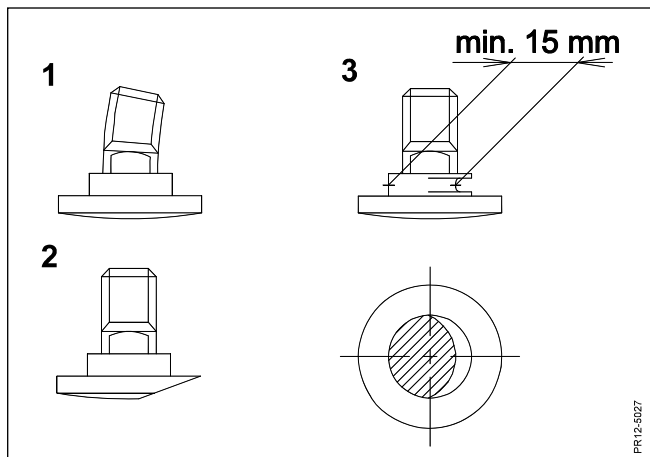

Fig. 5-9
- Fig. 5-9** Blade bolts must be replaced if: